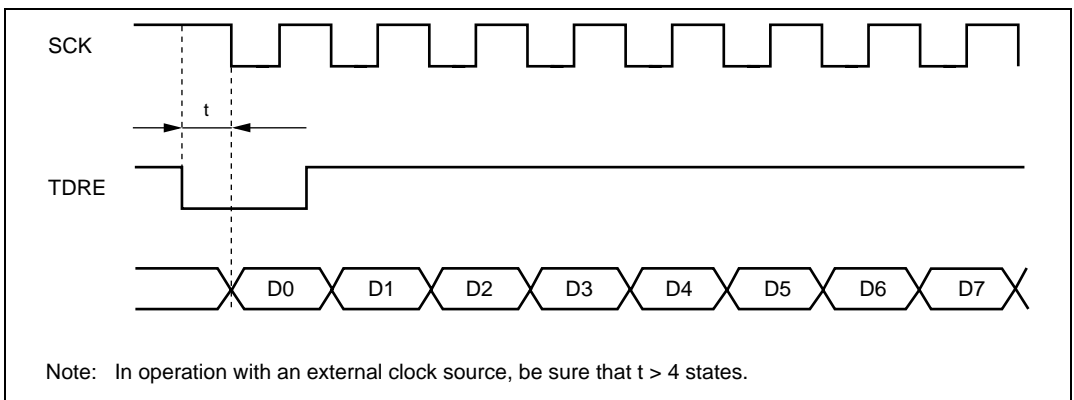

Figure 12.22 Example of Synchronous Transmission
- When an external clock source is used for the serial clock, after updates TDR, allow an inversion of at least five system clock (ϕ) cycles before input of the serial clock to start transmitting. If the serial clock is input within four states of the TDR update, a malfunction may occur (See figure 12.22).